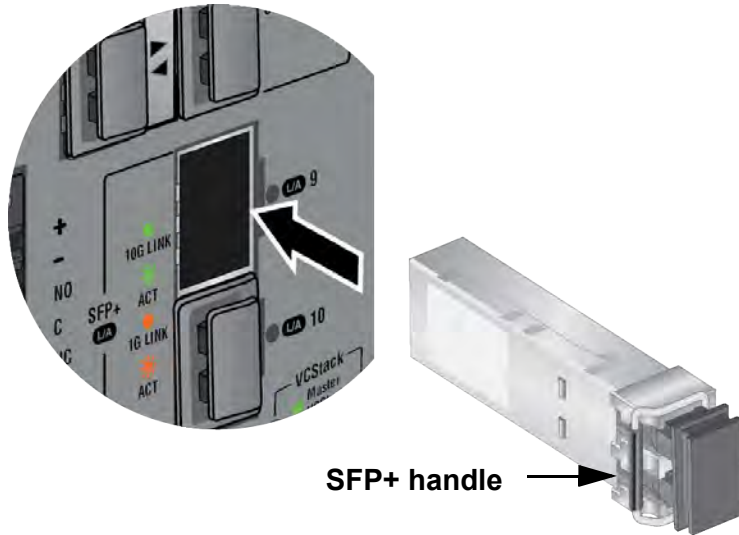

Figure 40. Installing SFP+ Transceivers in Ports 9 to 12
- For SFP+ transceivers for ports 9 to 12, position the transceivers with the handles on the left. Refer to Figure 40.